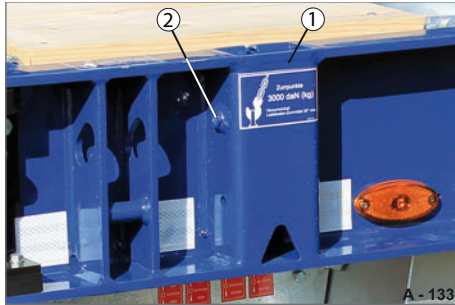

Fig. 104 Posts, safeguard from the side
- ▶ Insert the post (Fig. 104/1) completely into the post pocket (Fig. 104/1).
- ▶ Secure the post with screws/lock nuts (Fig. 104/2) from the side.